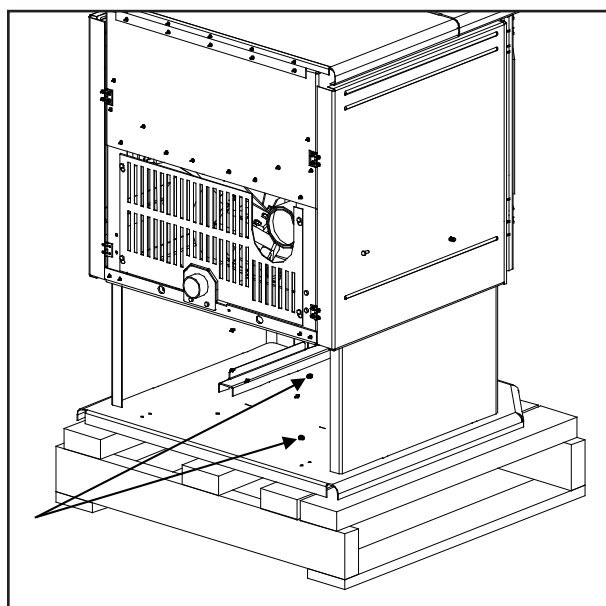

Figure 3: Removing FS From the Pallet.
To remove your new stove from its pallet, remove the two (2) screws securing the bottom to the pallet. Freestanding: One screw can be easily seen from behind but to access the second screw the ashpan must be removed (refer to Figure 3).